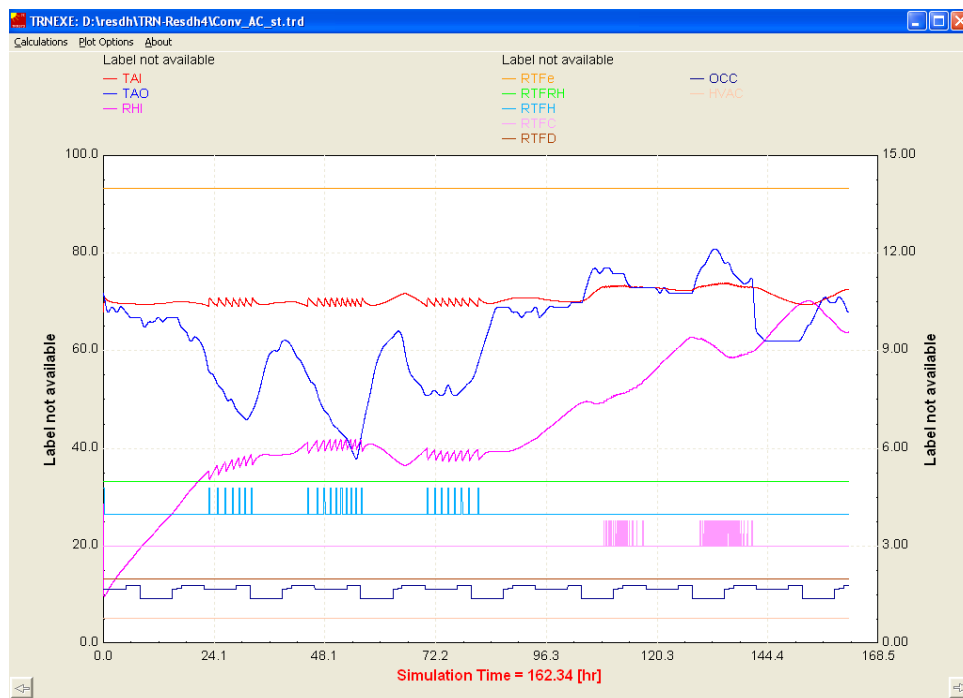

Figure 3. On-line Plotting Window for TRNSYS Simulation
5. During the simulation, the online plotter will displays several variables from the simulation as it progresses (see Figure 3 below).